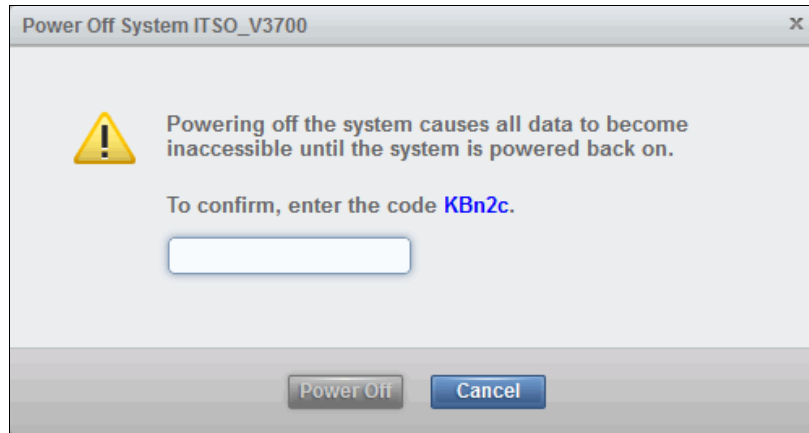

Figure 11-82 Power Off system confirmation
4. Enter the provided confirmation code and click **Power Off** to begin the shutdown process, as shown in Figure 11-82.